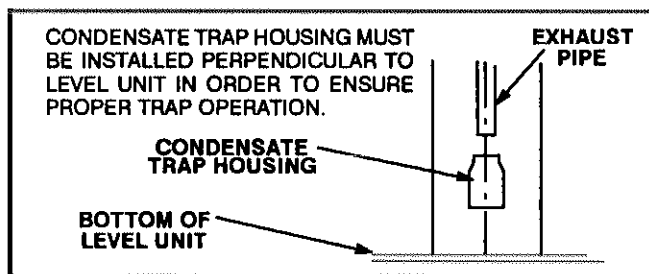
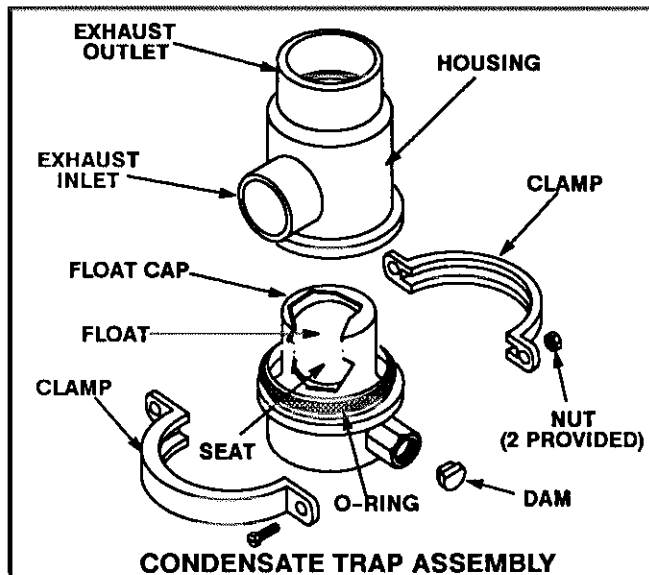
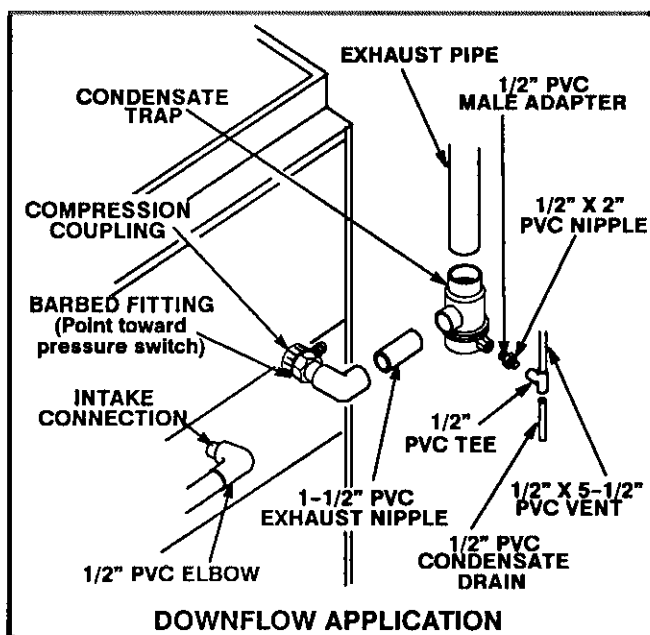

FIGURE 16
FIGURE 17
FIGURE 18
CAUTION—Compression fitting must be checked to ensure a proper seal. If adjustment is necessary, center mullion can be removed. After adjustment, carefully inspect pressure switch hose to make sure it is firmly attached and check for proper positioning of barbed fitting. See figures 18 and 19.
- 3- Condensate trap is packaged separately and shipped inside unit. Separate housing from condensate trap assembly as shown in figure 17. In downflow applications, 1-1/2" elbow and 1-1/2" PVC nipple must be used to avoid blocking access panels. See figure 18. Cement the housing to either the 1-1/2" PVC nipple (downflow applications) or directly to the compression coupling (horizontal applications). Condensate trap housing must be installed perpendicular with bottom of unit to ensure proper operation of trap float. See figure 16.
- 6- Install O-ring (provided) on trap assembly as shown in figure 17. Lubricate O-ring with water or silicone-based lubricant.
- 8- Install threaded adapter (provided) to condensate connection and cement 1/2" X 2" PVC nipple and tee to adapter in position so that condensate line may be attached in horizontal or vertical position depending upon application. See figure 18 or 19.
- 9- Cement 1/2" X 5-1/2" nipple to tee as shown in figure 18 or 19 to provide drain vent.
- 1- Cement intake piping to intake inlet using elbow assembly, PVC pipe and reducer coupling provided. See figures 18 and 19 for typical applications.